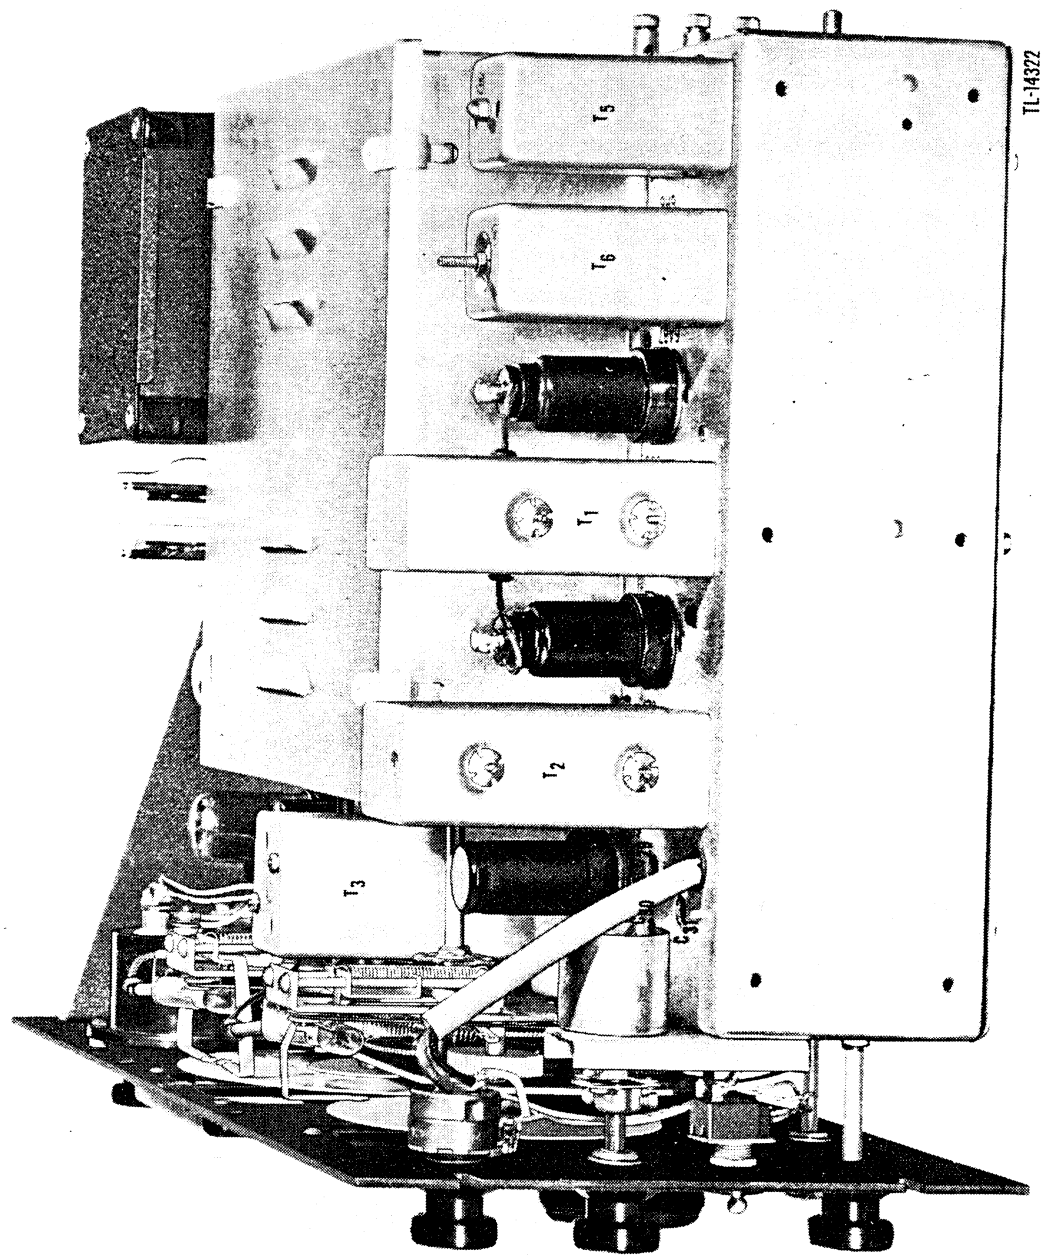

Figure 22. I-f aligning adjustments.
- (5) BANDSWITCH for i-f alignment .55- to 1.6-megacycle band.
- (6) BANDSWITCH for r-f alignment set at band being aligned.
- (7) SELECTIVITY control at SHARP I.F.
- (8) SEND-RECEIVE switch at RECEIVE.
- (9) CRYSTAL PHASING control at No. 11½ on left side.
- (10) A.N.L. control at OFF (zero).
- (11) A.V.C. control at A.V.C.-OFF.
- (12) BANDSPREAD control at 100 on the logging scale.
- (13) ANTENNA TRIMMER must be adjusted for maximum gain at each r-f alignment point.
- (14) R.F. GAIN control at maximum (No. 9).
c. I-f Alignment 455 Kc (fig. 22).
- (1) Set main dial at 1,400 kc on .55- to 1.6-mc band.
- (2) Connect the hot lead from the signal generator to the mixer Tube JAN-6SA7 (V3) terminal No. 8. Connect the ground of the signal generator to the chassis. Adjust the signal generator to produce a 455-kc modulated signal.
(3) For maximum reading of the output meter, roughly adjust the aligning screws of transformer T1 (fig. 22). The lower screw is accessible through the hole in right mounting bracket.
(4) Adjust the alignment screw on transformer T2 for maximum output meter reading.
(5) Adjust capacitor C31 (figs. 8 and 22) and the air trimmer capacitors at the top of transformer T3 (fig. 22) for maximum output.
(6) Switch to CRYSTAL BROAD position.
(7) Turn on the B.F.O. and adjust to a tone of about 1000 cycles.
(8) Vary the frequency of the signal generator about the 455-kc setting while adjusting the top screw on transformer T2 (fig. 22) until the output goes through a maximum, dips down, and rises to another maximum.
(9) Adjust the phasing control for maximum selectivity and back off the top screw on transformer T2 until the output reaches a minimum value between the two maximum values first noted.